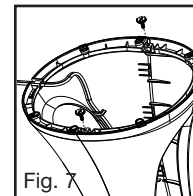

Fig. 7
- Place 2 thumb screws into the the base for added stability (Fig. 7).